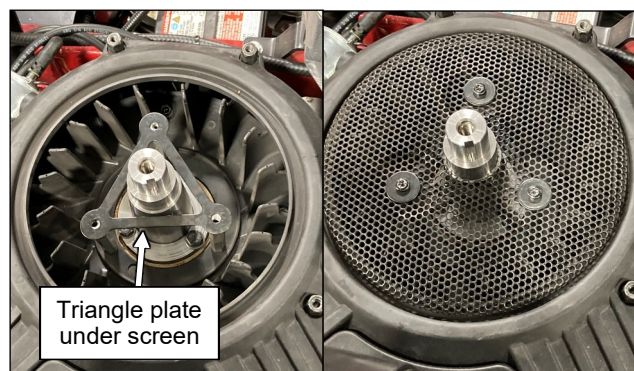

Fig. 1.6 (Re-install screen)
- 1.6 See fig. 1.6. Re-install the triangle and mesh screen onto the engine using its original hardware. Tighten all hardware. Save the remaining hardware removed in step 1.3 for use later.